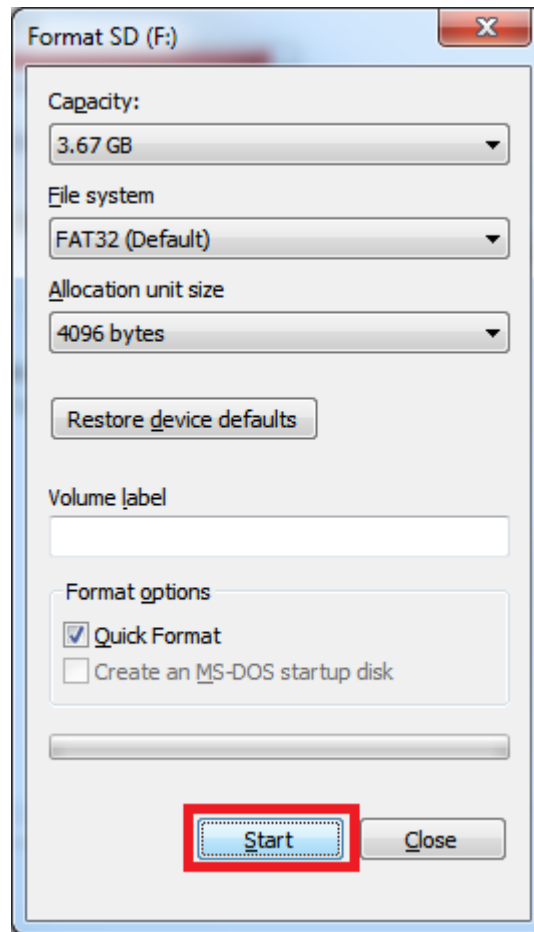

Figure 2-59. Windows 7 Format SD Card Window
3. Select "FAT32 (Default)" as the file system and use the default values for the other settings. See Figure 2-59.